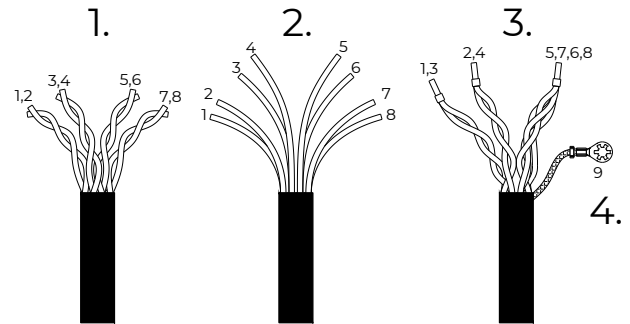
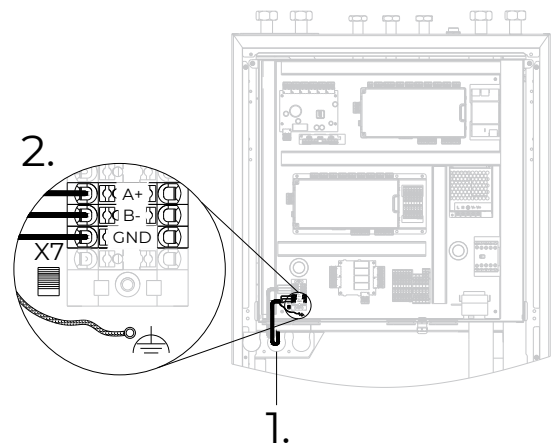

Figure 18: Ready the FTP cable
Figure 19: Connecting the communication cable of the outdoor unit
3. Braid the wires together as shown in Figure 18, insert them into end sleeves, and crimp them.
4. Press the eye terminal onto the communication cable shield (9).
1. Wire the communication cable (Figure 18) to the electrical box through the cable channel on the left side (Figure 19).
- 2.1 Connect wires 1 and 3 (Figure 18) to terminal A+ (Figure 19).
- 2.2 Connect wires 2 and 4 (Figure 18) to terminal B- (Figure 19).
- 2.3 Connect wires 5, 6, 7, and 8 (Figure 18) to terminal GND (Figure 19).
- 2.4 Ground (Figure 19) the cable braid 9 (Figure 18).